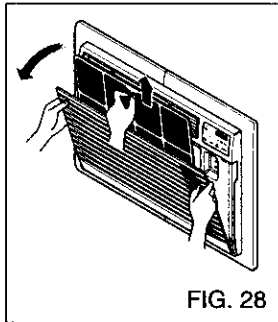

FIG. 28
- Pull the inlet grille forward and pull out the air filter. (FIG. 28)